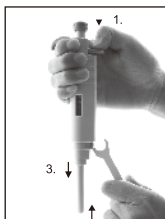

Fig. 8
2. Place the tooth of the opening tool between the tip ejector and the tip ejector collar to release the locking mechanism (Fig.8).